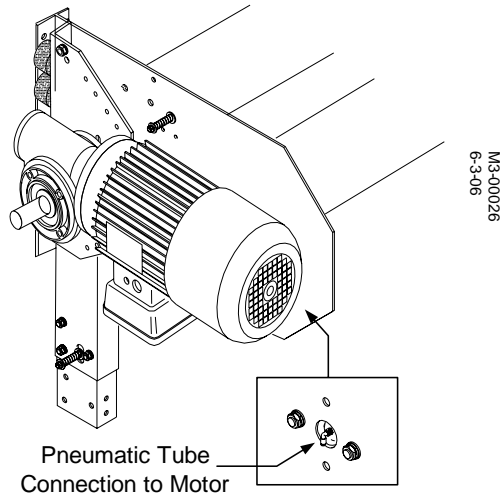

Figure 2-25: Pneumatic Tube on Drum Shaft
1. Connect the pneumatic tube at the drum. See Figure 2-25.